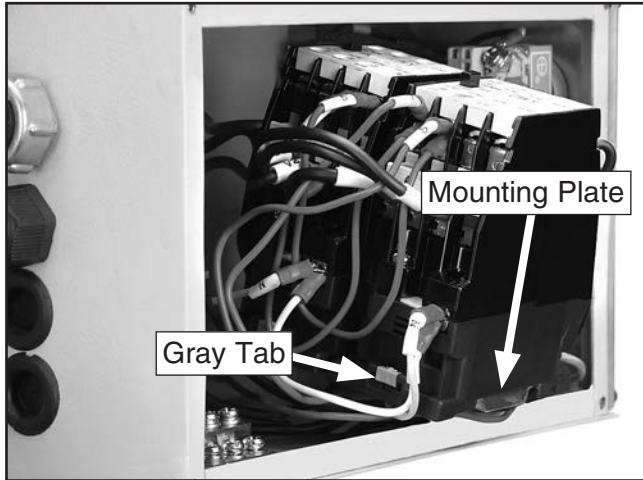

Figure 7. Contactor release tab location.
- Remove the screws that secure the brass contactor mounting plate to the back of the electrical box, then pull the contactors out to access the gray tab shown in **Figure 7**. Pull outward on the gray tab to release each contactor from the mounting plate.